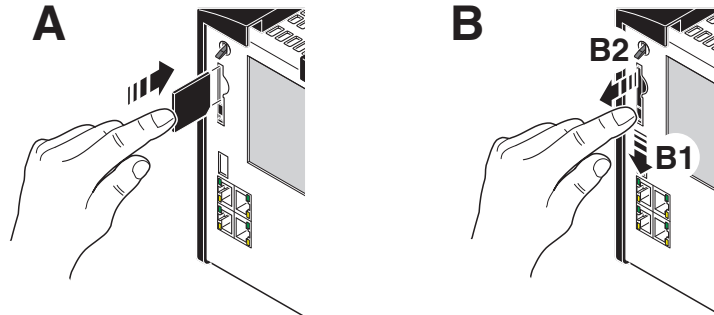

Figure 3-4 Inserting (A) or removing (B) the SD card (parameterization memory)
Inserting (A) and removing (B) the SD card is graphically shown in Figure 3-4.